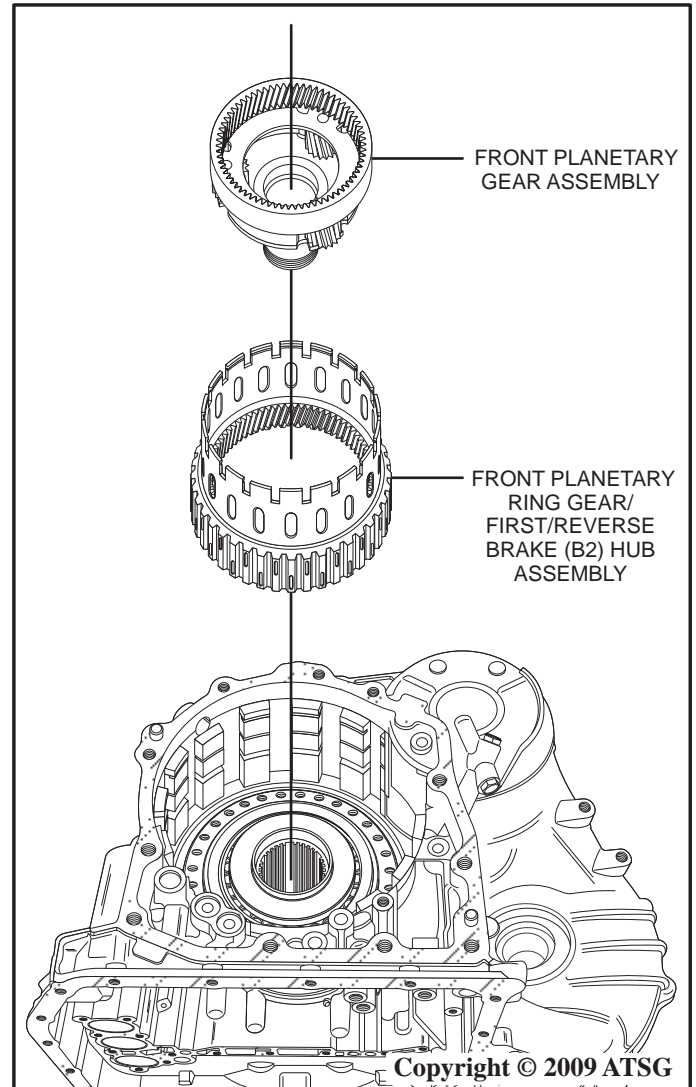

Figure 151
12. Install the front planetary into the hub and install into the case as shown in Figure 151.